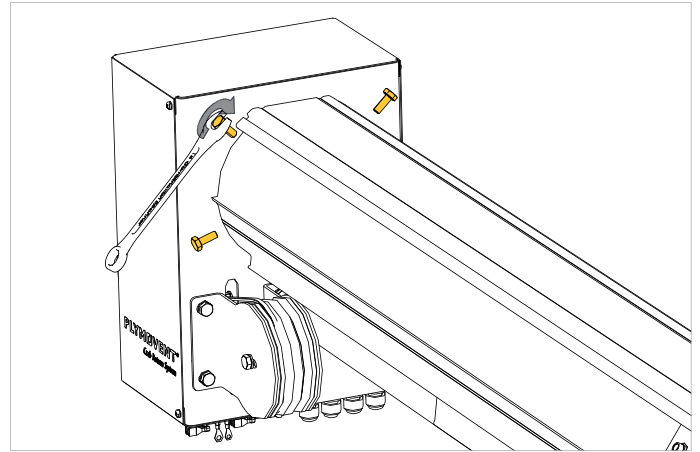

Fig. 5.3.2 Mounting the motor compartment to the rail
- Mount the motor compartment to one end of the rail, and secure with 4x M8x20 bolts and 4x M8 washers using wrench 13 (½ in.). Refer to fig. 5.3.2.